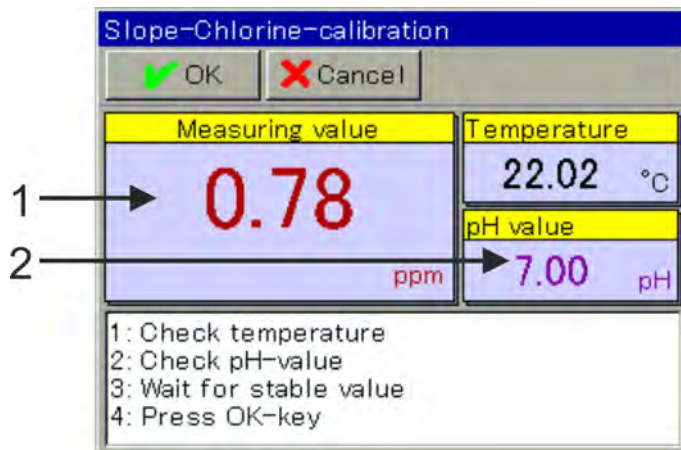

Fig. 85: Conductance chlorine calibration: pH-value input
3. Check the displayed values of the factors pH value and temperature. For both factors, automatic detections can be independently configured in the default calibration settings. With automatic readings, you can view but not edit the resulting factor. Without automatic readings, you need to enter each factor manually. See Fig. 85 . Wait for a stable reading to show and check the displayed pH. Then confirm with "OK".